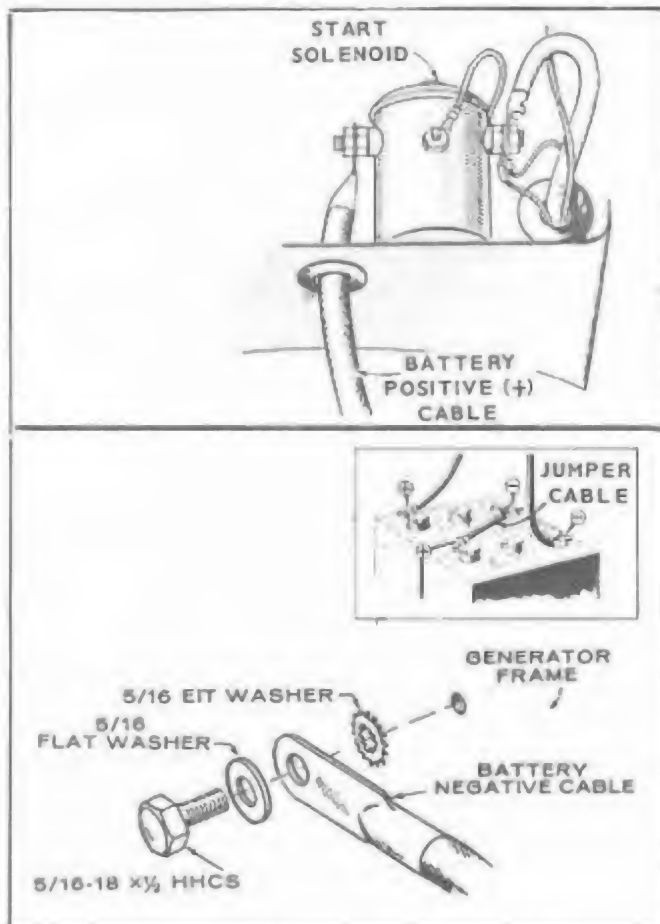

FIGURE 8. BATTERY CONNECTIONS
**Exciter Cranked Plant:** Refer to wiring diagram and Fig. 8. If battery ground must be changed, reverse the connections to the charge mmeter or re-mark the correct direction of charge. Crank electrically to flash field.